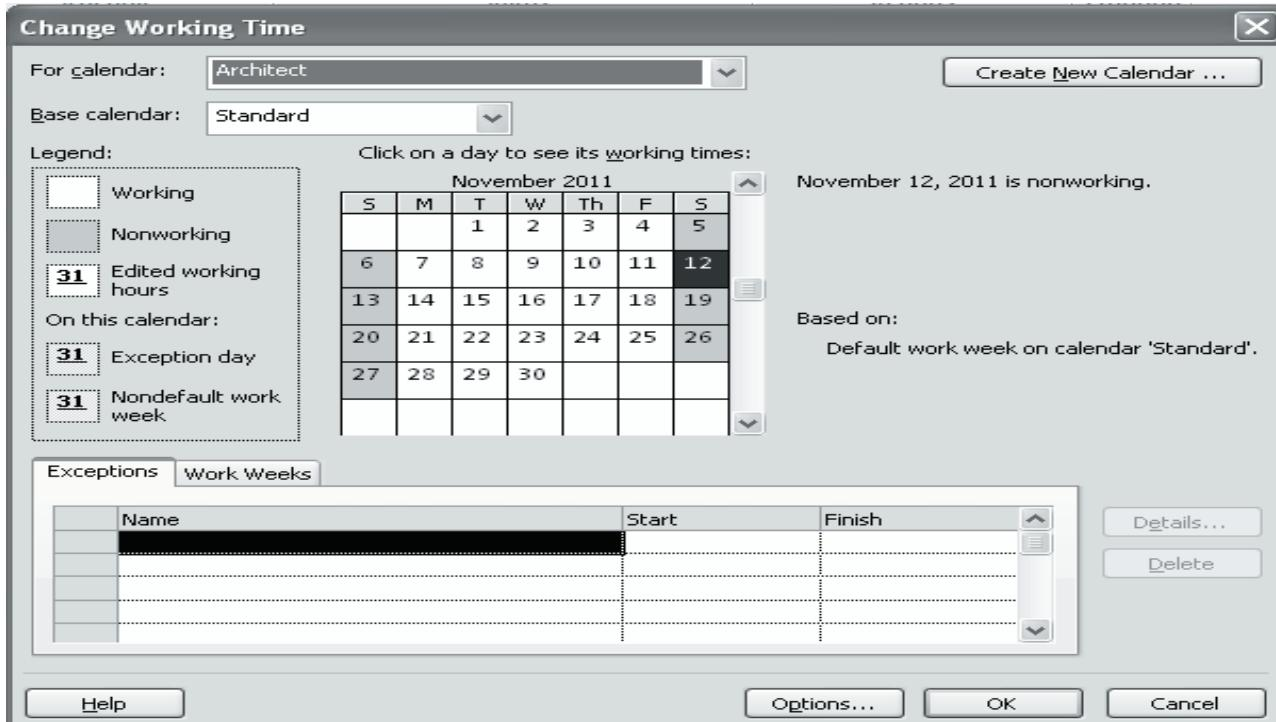

Figure 3.4: Resource Information Dialog Box for the Resource, Architect
3. Click **Change Work Time...** in the **Resource Information** dialog box to display options for configuring work times and workdays for the selected resource as shown in figure 3.4.